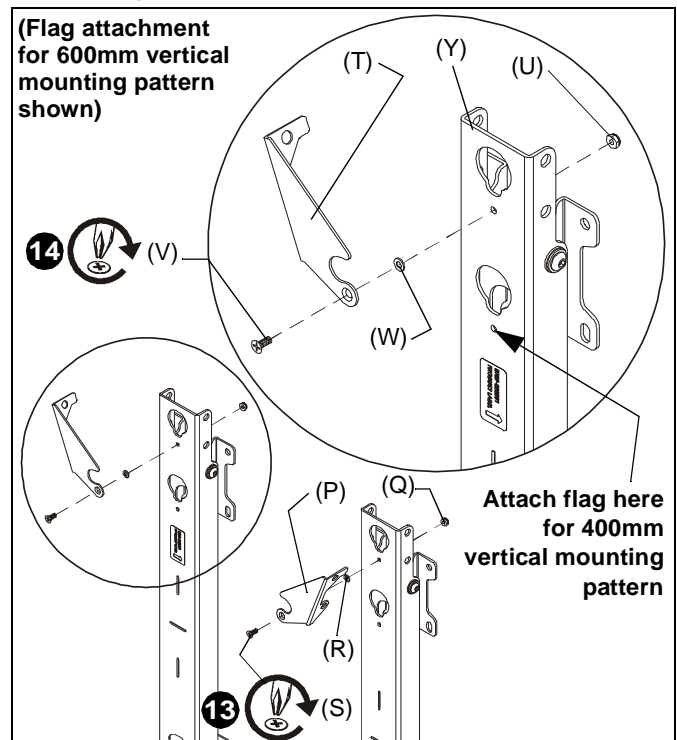

Figure 10
- Attach right latching flag (P) to upright bracket (Y) using one 10-24 x 1/2" Phillips undercut screw (S), one .375x.194x.032" spacer (R), and one 10-24 locknut (Q). (See Figure 10)
- Attach left latching flag (T) to upright bracket (Y) using one 10-24 x 1/2" Phillips undercut screw (V), one .375x.194x.032" spacer (W), and one 10-24 locknut (U). (See Figure 10)